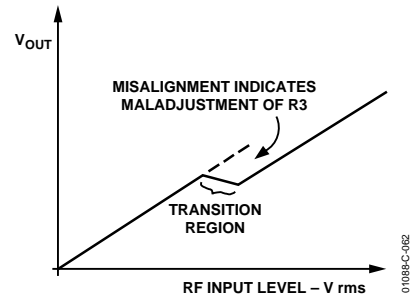

Figure 62. Intercept Adjustment
4. Finally (re)adjust R3 as required to remove any remaining misalignment in the transfer function (see Figure 62).